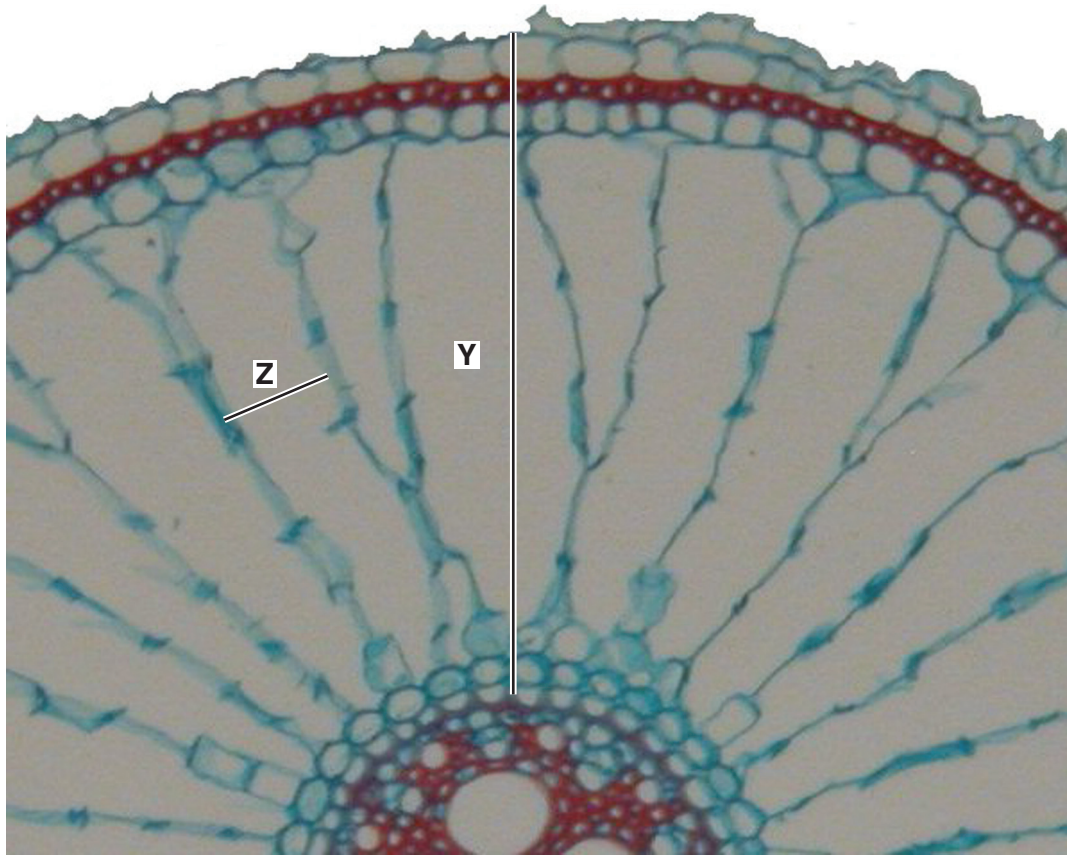

Fig. 2.2
Fig. 2.2 is a photomicrograph of part of a stained transverse section through a root of a plant species. This plant species is found globally.
(b) Use the lines **Y** and **Z** shown on Fig. 2.2 to calculate the ratio of **Y** to **Z**.
- (c) Prepare the space below so that it is suitable for you to record observable differences between the specimen on **M1** and Fig. 2.2.